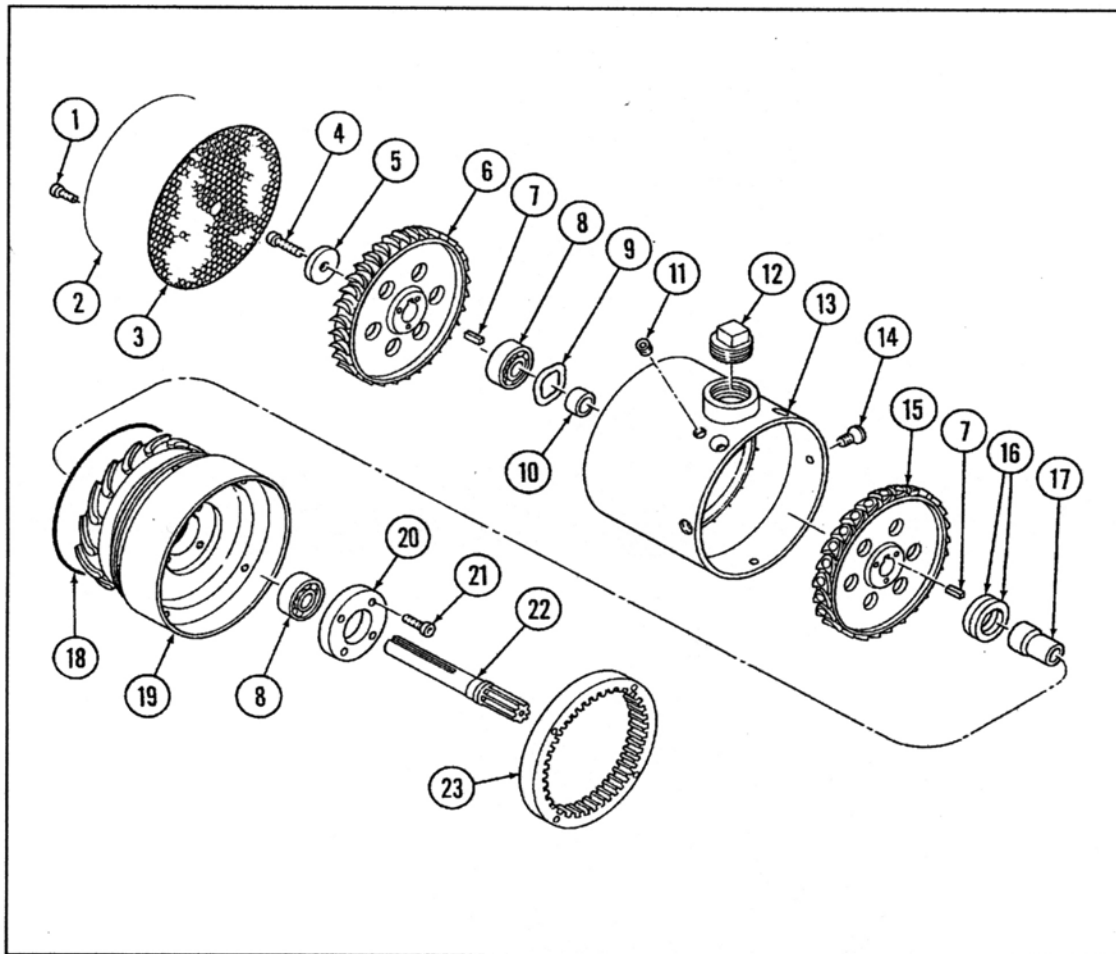

Figure 3. Turbine Housing Assembly
The Turbine housing assembly, refer to figure 3, consists of a stage one (15) and a stage two (6) turbine rotor mounted on sungear shaft (22). The front bearing (8) is secured by a retainer plate (20) and the aft bearing is pre-load by a spring washer (9).